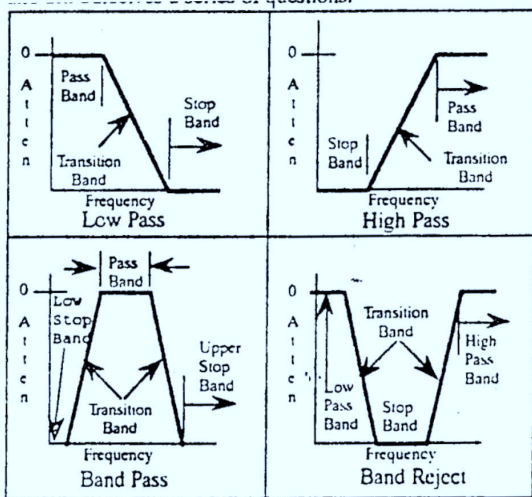

Figure 1. Filter types
**Specifications:** There are four basic types of filters (Figure 1) but only the band pass and band reject filters are normally built as crystal filters. The transition region separates the stopband from the passband. The narrower the transition band the more selective the filter, and the more complex its realization. The transition band is normally never specified but its end points are established by defining the passband and stopbands.
The spurious responses are caused by, inharmonically related, modes of vibration in the crystal. They appear in the filter as narrow responses that degrade whatever band they appear in. For example, if they appear in the stopband, the attenuation is decreased (Figure 1) but if they appear in the passband they will introduce an unwanted notch. Generally, spurious responses are very narrow and don't cause a problem unless an unwanted signal appears at their frequency. They have a minimal impact on the overall noise bandwidth. More on spurious later.